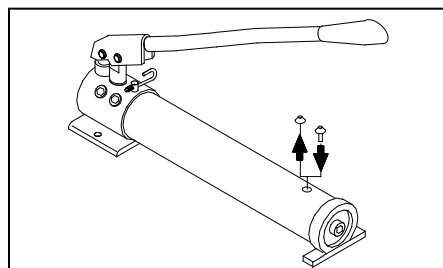

Figure 5 - Remove shipping plug and replace with air vent plug before initial use.
- Remove shipping plug and replace with air vent plug (Fig. 5).